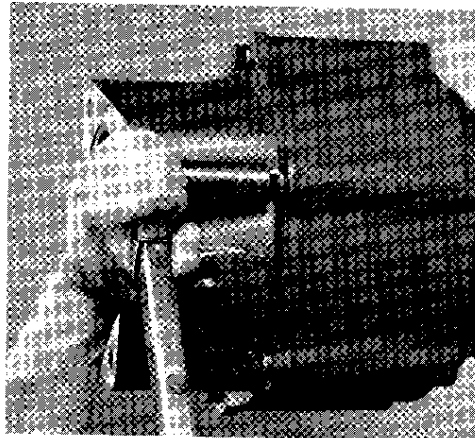

Fig. 1
2. Remove pipe plug (12) from case and drain oil from unit. Retain oil for analysis.
3. Remove remaining two pipe plugs (29) in motor adapter (28).
5. Remove eight bolts (30) from motor adapter (28). (Fig. 1)
6. Remove motor adapter (28) from small internal gear (26).
7. Remove small internal gear (26) from transition plate (20).
8. Remove 'O' rings (27) from small internal gear (26).
21. Place transition plate (20) pilot into counter-bore of housing (11). Line up holes in transition plate with matching holes in housing. Insert six cap screws (21) with lock washers, in holes. Tighten to 60-70 ft. lbs. torque. (Fig. 1)
30. Place motor adapter pilot into counterbore of internal gear, line up holes in motor adapter with holes in internal gear. Insert eight cap screws (30) with lock washers, in holes. Tighten to 60-75 ft. lbs. torque. (Fig. 1)